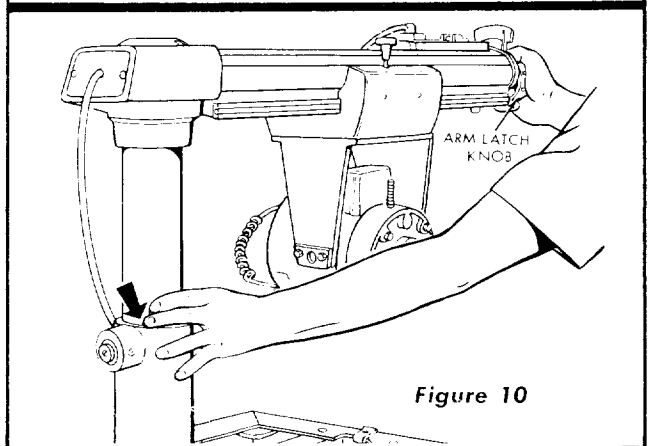

Figure 10
1. Swing the radial arm to the 90° position (until it latches) and tighten the arm latch knob. (See figure 10.)
2. While holding the arm latch knob with one hand, hold fingers of other hand at parting line between column tube and column support. (See figure 10.) Apply gentle side force to the radial arm in opposing directions. Any looseness between column and column support, (indicated by arrow in figure 10) can be felt with fingers.
3. If looseness can be felt, at point indicated by the arrow in figure 10, perform operations outlined in instructions that follow: